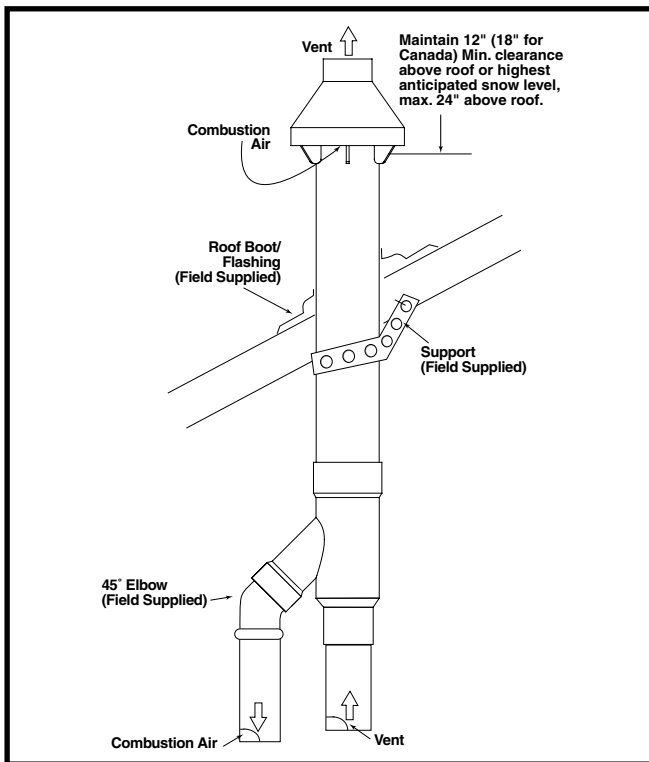

Figure 3. Roof Installation
- Install cemented Y concentric fitting and pipe assembly through structure's hole and field supplied roof boot/flashing. See Figure 3 (page 3).
- Secure assembly to roof structure as shown in Figure 3 using field supplied metal strapping or equivalent
IMPORTANT: Make sure the termination height is above the roof surface or anticipated snow level (12 inches in U.S.A. or 18 inches in Canada). If the assembly is too short to meet the height requirement, the 2 pipes supplied in the kit may be replaced by using the same diameter, field supplied SDR-26 PVC (D2241) pipe. Do not expand dimension "D" more than 60 inches. See Figure 3.